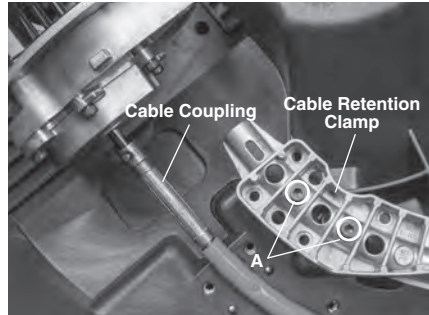
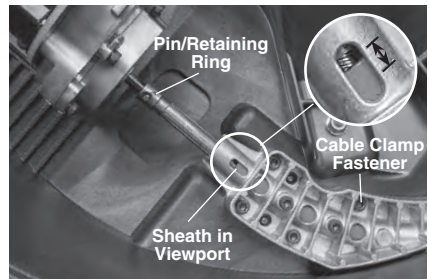

Figure 19 – Cable Installation
Figure 20 – Sheath Position In Viewport
3. Loosen sheath clamp screws (Figure 19 A) two turns, but do not remove.
4. Remove the cable retention clamp fasteners and retention clamp (Figure 19).
- Loosely install the 4 cable retention clamp fasteners (see Figure 19). Make sure that the cable sheath is within $\frac{1}{4}$ " (6.4 mm) of the cable coupling. When looking through the viewport, the end of the sheath must be between the lines (see Figure 20).